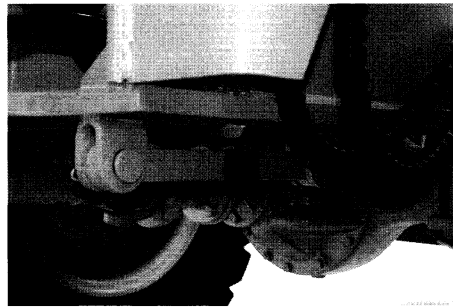

Figure 3-3 Locking pole of steering
- The improper hoisting to the loader can result injury and damage to people and the machine, therefore before hoisting the loader, please lock the frame to prevent the machine from turning. (figure 3-3)
- Retract the locking bar when the hoisting performance finished. (Figure 3-3)